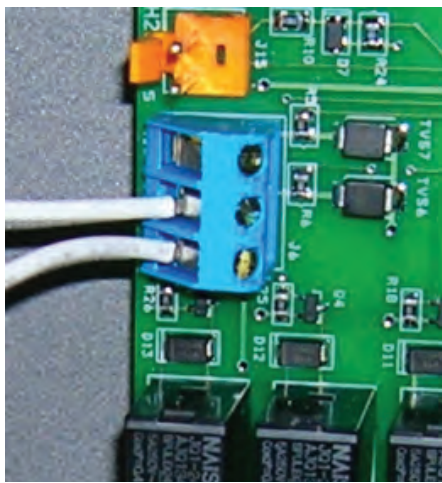

Figure 26. AquaLink® RS or Remote TSTAT Connection (s-Wire Connection)
4. Connect the wiring from the pool/spa control system to the heater remote control terminal. See Figure 26.